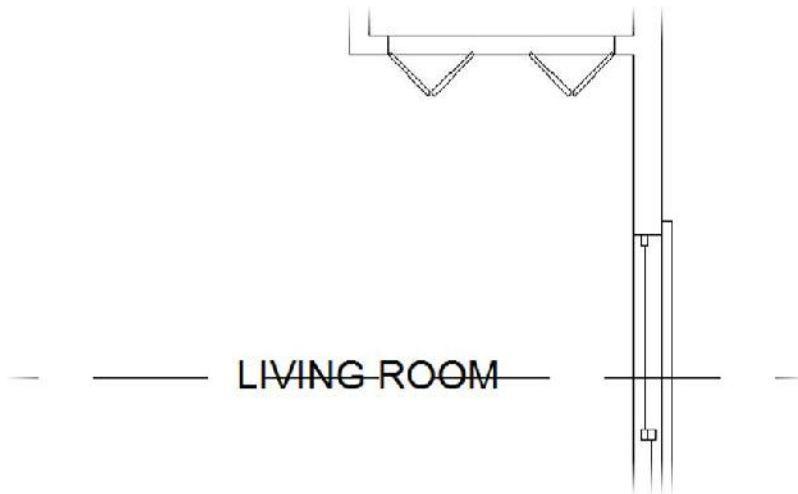

FIGURE 8.25: The selected text overlapping the ridgeline
3. Select the **LIVING ROOM** text, and use the *MOVE* command to move it so that it rests on the ridgeline, as shown in Figure 8.25.